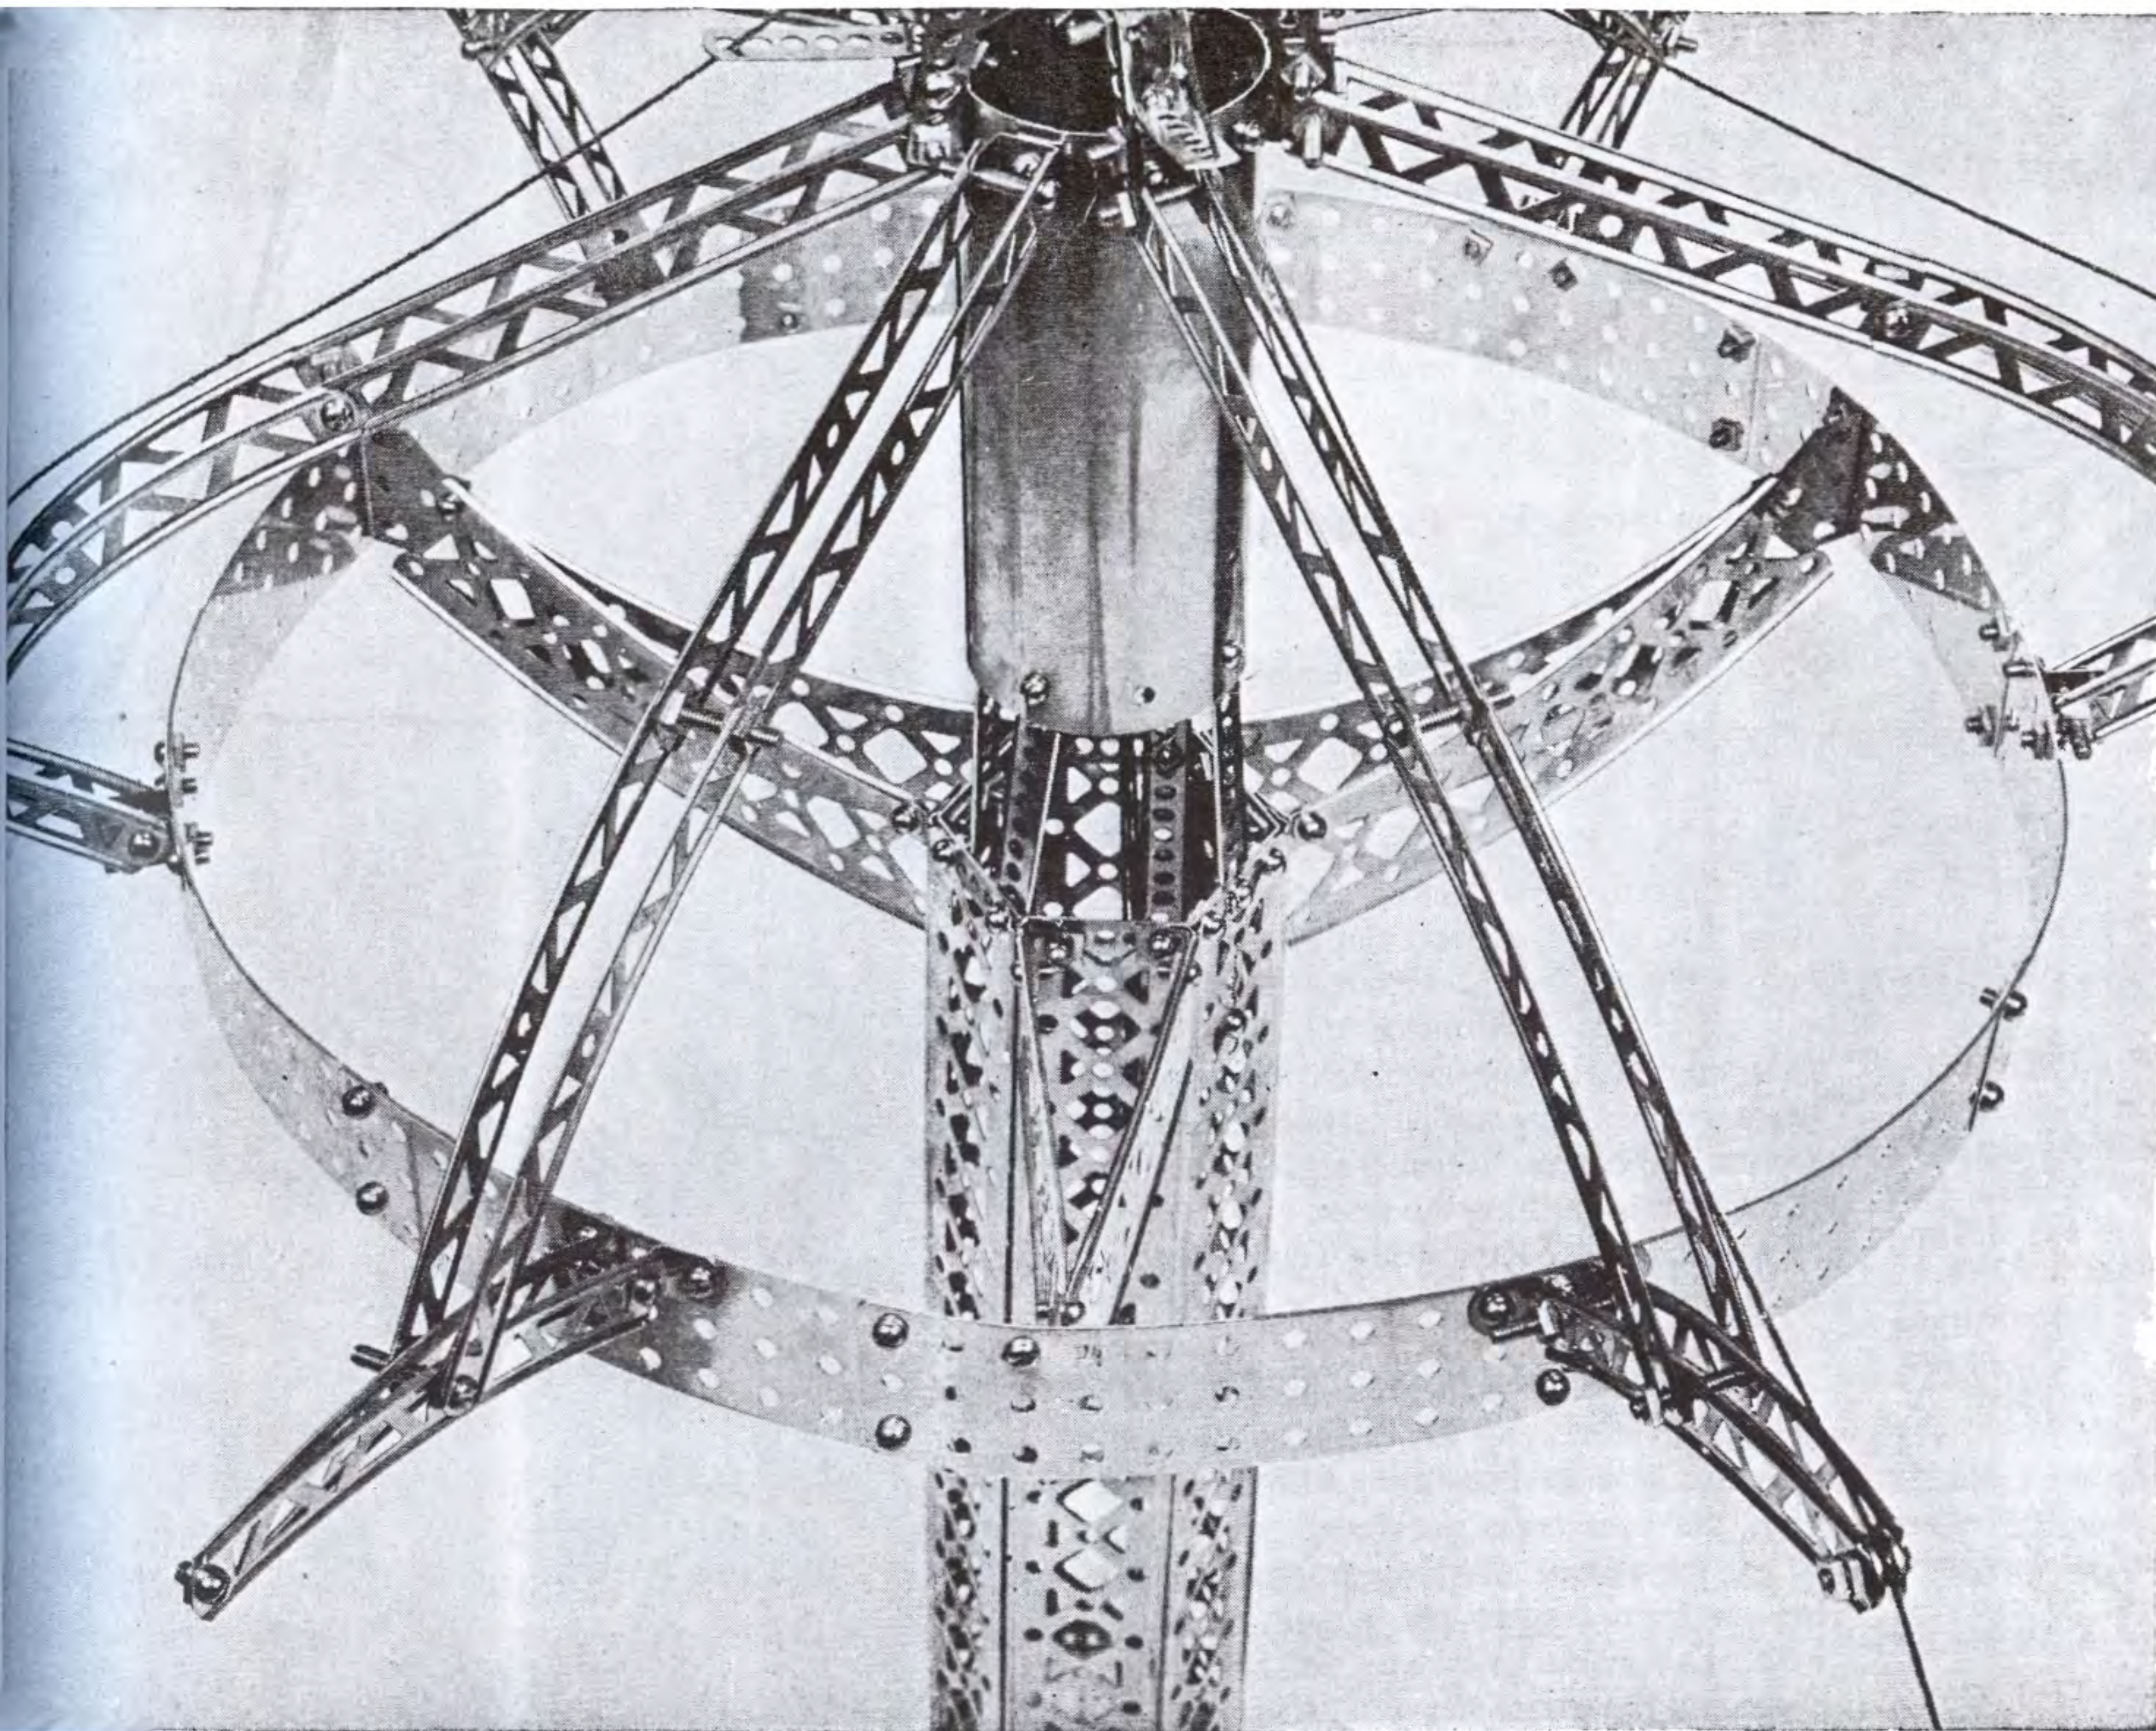

FIGURE 4
This third figure shows the top of the second square girder being fastened to a six-sided member constructed of 6 (EX) big channel girders 12", and two (NS) 41 hole strip formed. The two (NS) strips are attached inside each end of this six-sided member. See Fig 4 for an inside view of this member.
The top ring is built in circular form with 10 (MF) 1" x 5" base plates. This ring is supported from the top of the tower in three places with (EZ) big channel curved girders as shown in Figure 4. A (T) boiler is mounted on top of the tower with 4 (H) 11 hole strips. The top of the boiler is supported in six places with an assembly of 2 (B) 5" girders fastened to 2 (E) 5" curved girders which in turn are fastened to 2 (E) 5" curved girders that form the over-hanging struts. On Figure 4, you will see the over-hanging struts are fastened to the ring with (P20) 5 hole strip—formed. In the ends of four of these struts, (AQ) sheave pulleys are fastened so they are free to turn. The string for the parachute will pass over this pulley.